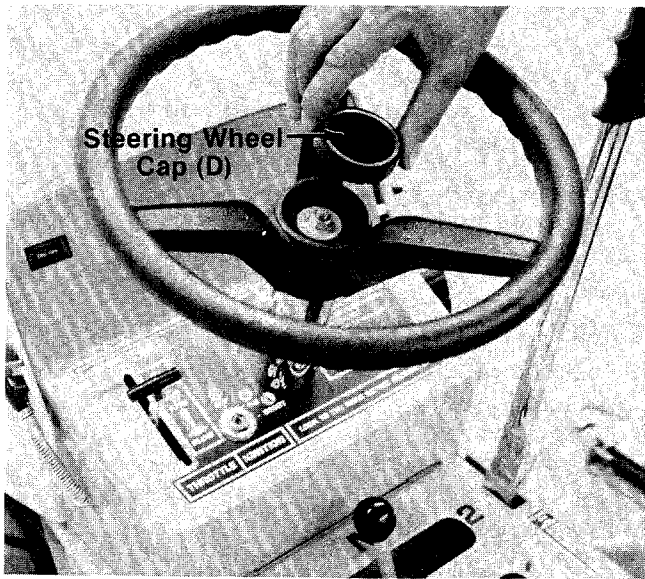

FIGURE 4.
4. Place steering wheel cap (D) in position on steering wheel and press down firmly. See figure 4.